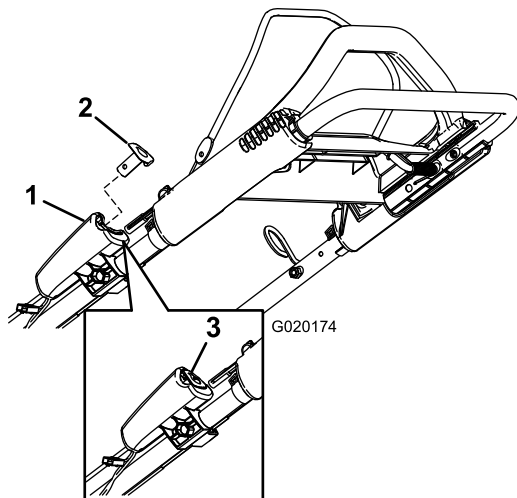
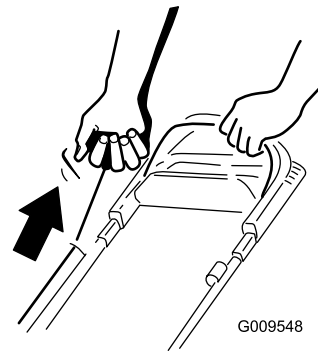

Figure 13
Figure 14
2. Push the electric-start button (Figure 13) (electric-start model only) or pull the recoil start handle (Figure 14).
Note: If the electric-start button has been removed, insert it in the electric starter; refer to Figure 13 (electric-start model only).
Note: When you pull the recoil-start handle, pull it lightly until you feel resistance, then pull it sharply (Figure 14). Allow the rope to return to the handle slowly.